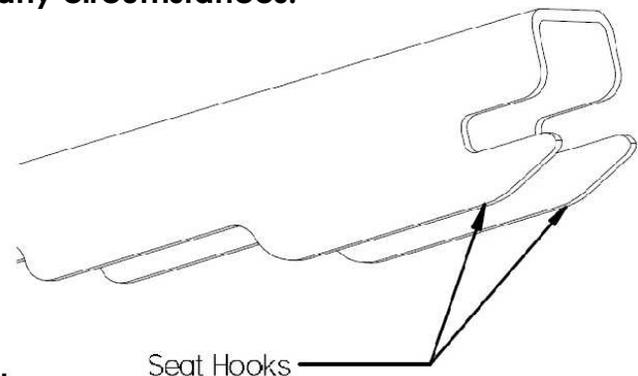

FIG. 1
2. After removing the seat bolts, slide the seat all the way back. Tilt the back rest all the way back. Remove the seat by lifting the back of the seat first and sliding it towards the back of the vehicle. Tilt the entire seat back and away from the mounting area. Remove the two plastic seat frame covers. They will interfere if left in place. NOTE: The "hooks" on the front of the seat rails (see FIG 1). There are two "hooks" for each seat rail. The space in between the hooks will be important later in STEP 6.